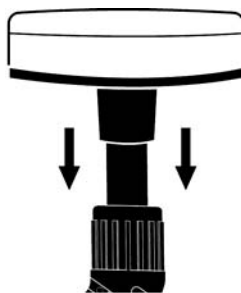

FIGURE 5
1. Place Scrub Pad over tip of Steam Jet Nozzle, and firmly press it as far on to Steam Jet Nozzle as possible to ensure that it is properly sealed (FIGURE 5). This will help prevent any steam leakage.